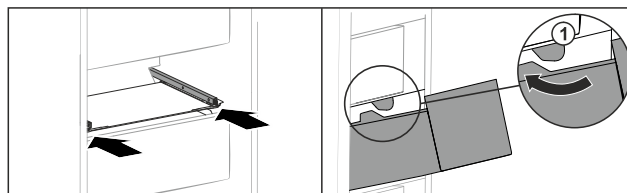

Fig. 159
- Guide drawer around the stoppers Fig. 159 (1).